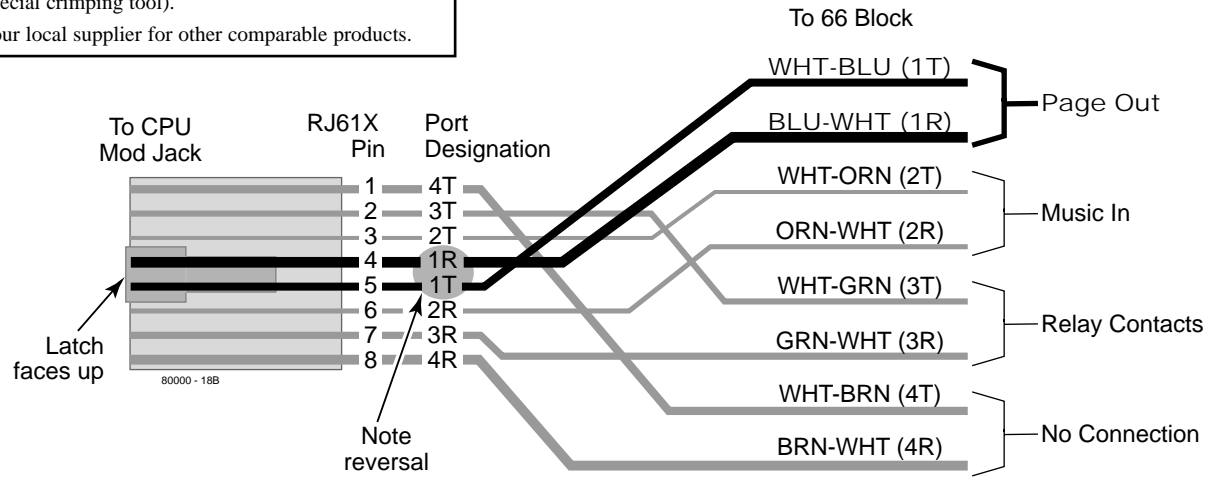

Figure 4-1 CONNECTING EXTERNAL PAGING
Installing External Paging (Figure 4-1)
2. For the connector chosen, locate pins 1T and 1R (see Figure 4-1) and connect the music source.